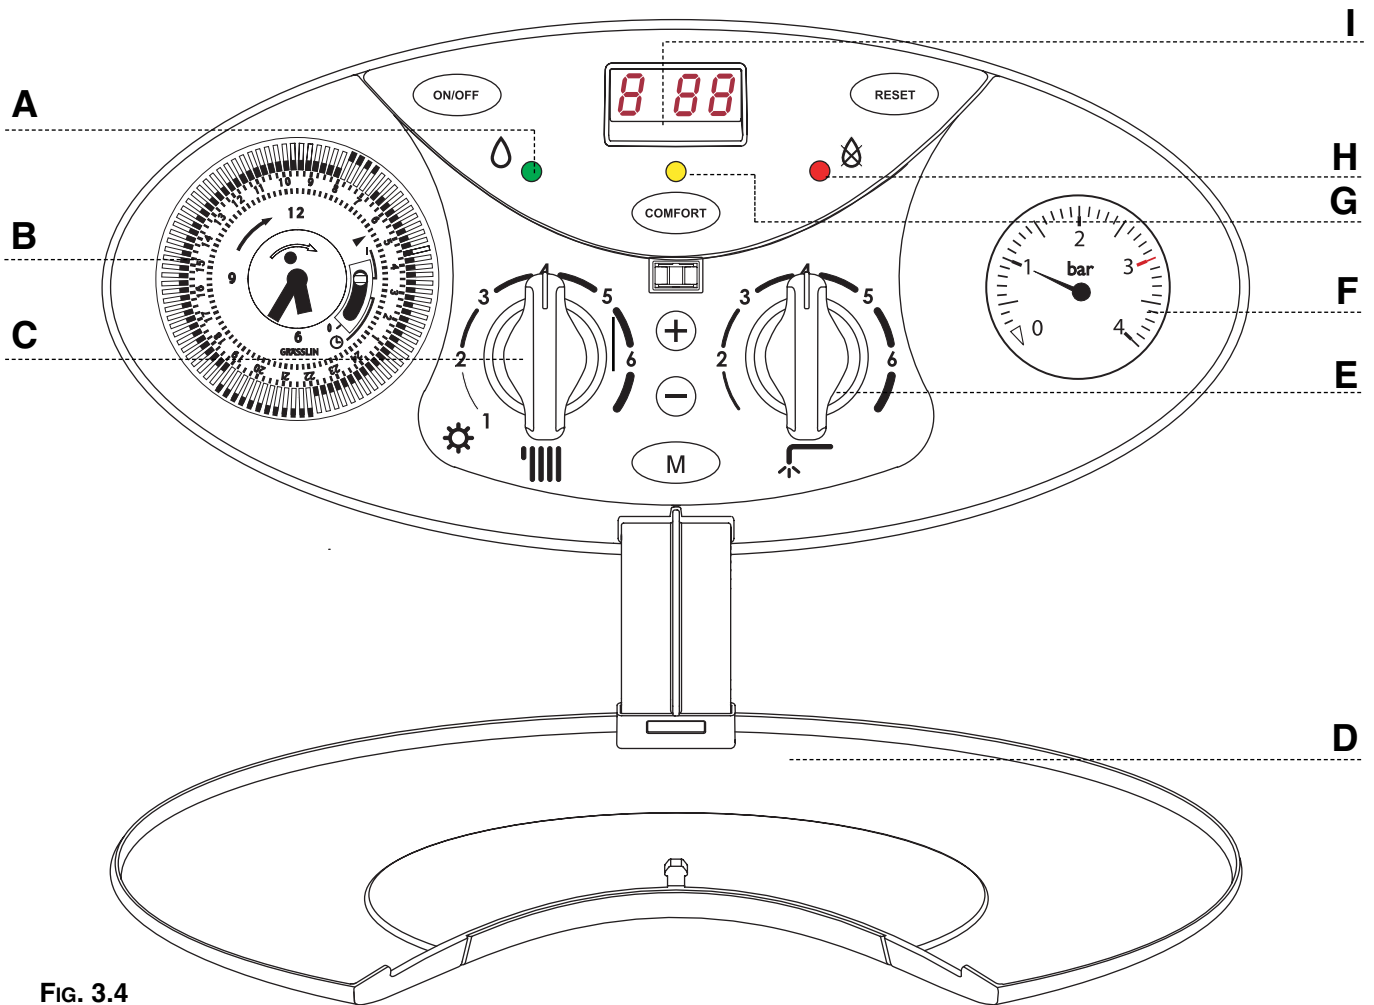

FIG. 3.4
- the system pressure is at least 1 bar on the pressure gauge "F" (Fig. 3.4);